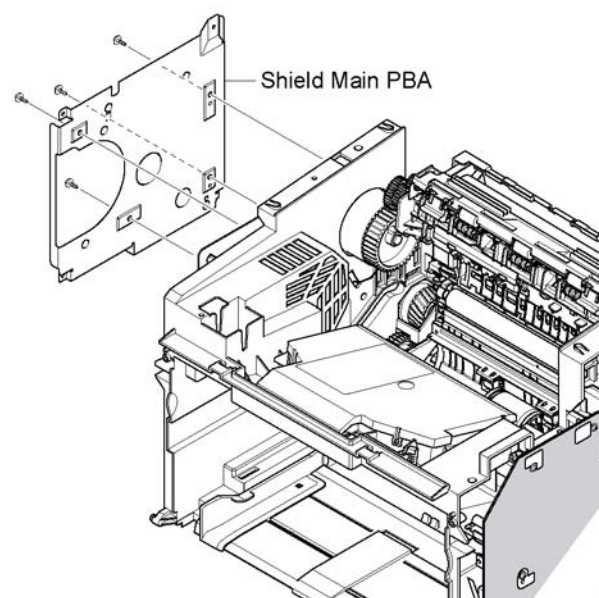

Figure 3
5. Remove 4 screws securing the shield main PBA and remove it, Figure 3.